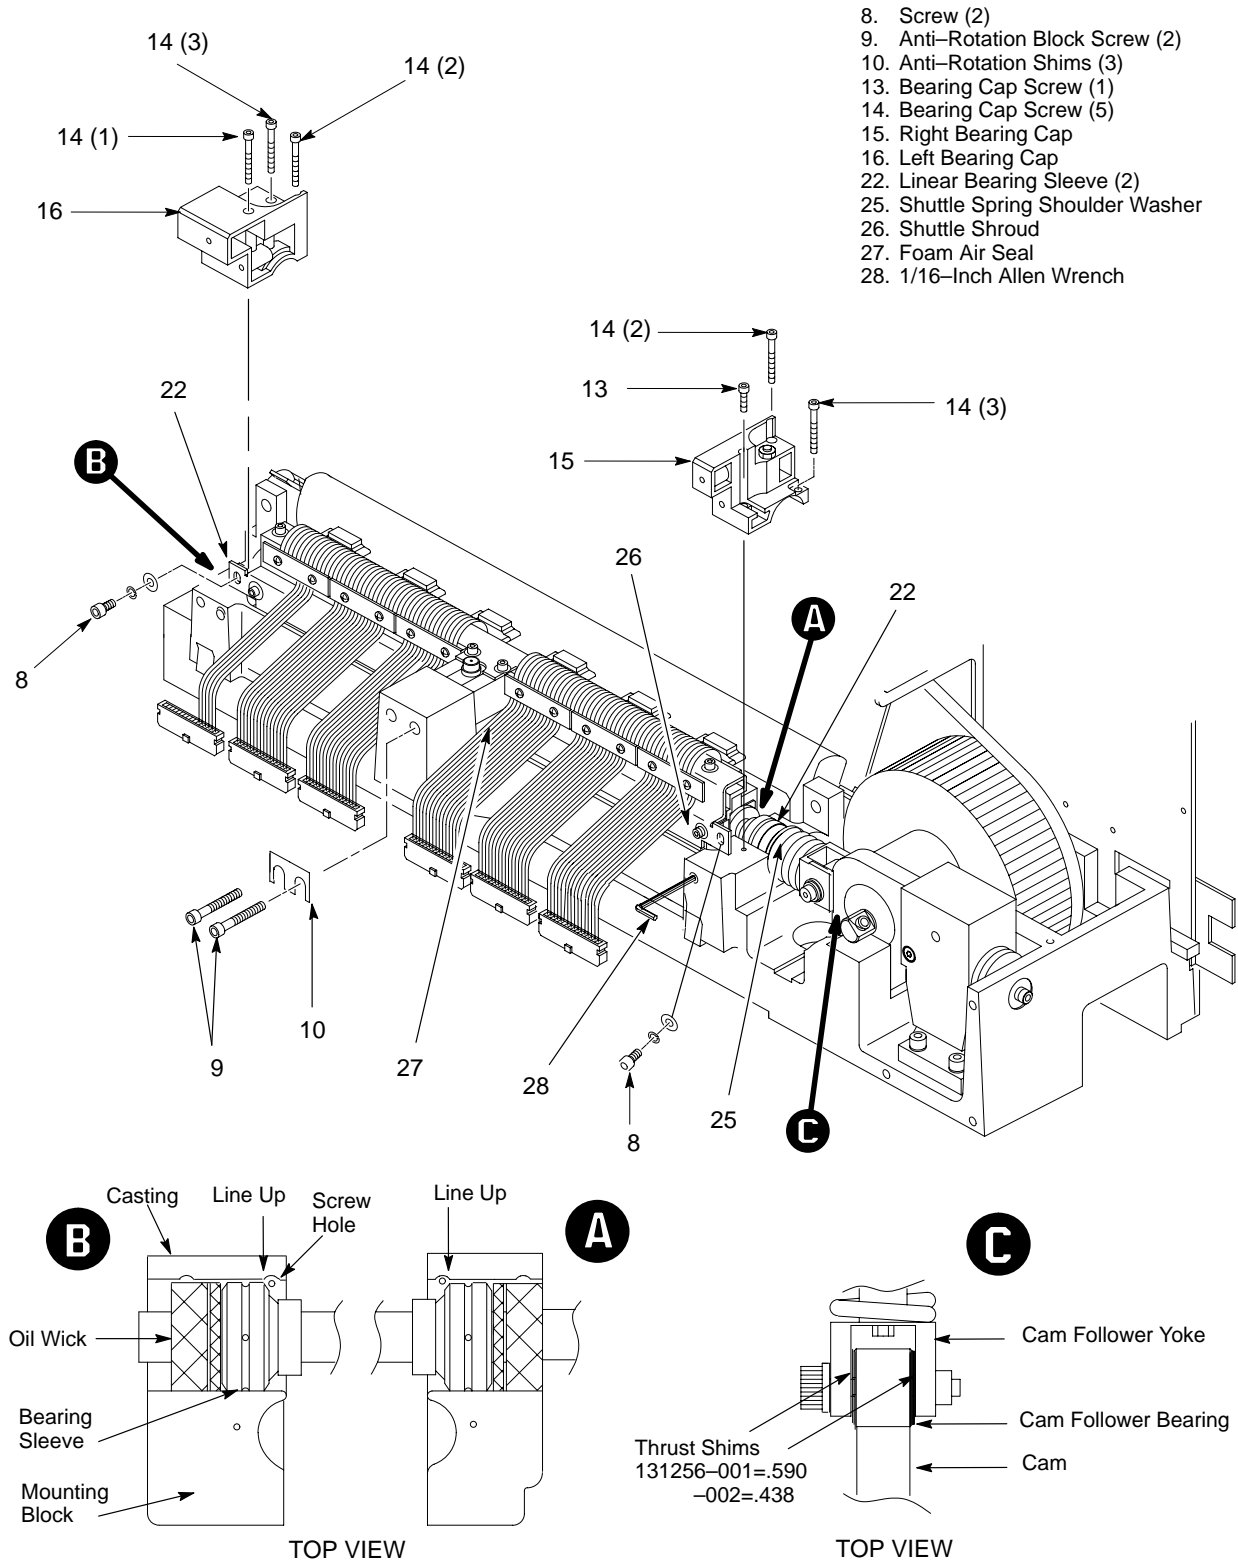

Figure 6-4. Installing Hammer Bank
13. Try to fit a .004 inch feeler gauge (Figure 6-5C, item 33) between the side of the cam and the alignment tool at the top and bottom of the tool. If the gauge fits in the top space (Figure 6-5C, left), add anti-rotation block shims (Figure 6-4, item 10). If there is clearance at the bottom (Figure 6-5C, right), remove shims. (Adding or removing one .005-inch shim will normally correct the alignment.)